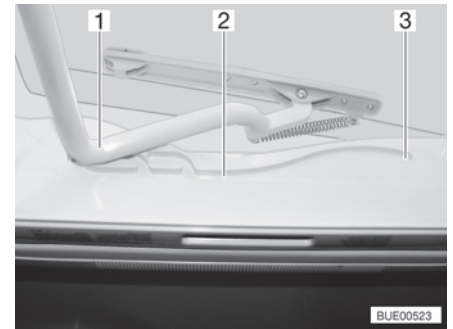

Fig. 80 Heki skylight, guide
- Pull the bar (Fig. 80,1) in the guides (Fig. 80,2) to the rearmost position (Fig. 80,3).
- Use both hands to push the bar (Fig. 80,1) slightly upwards.
- Pull the bar in the guides (Fig. 80,2) to the desired position.